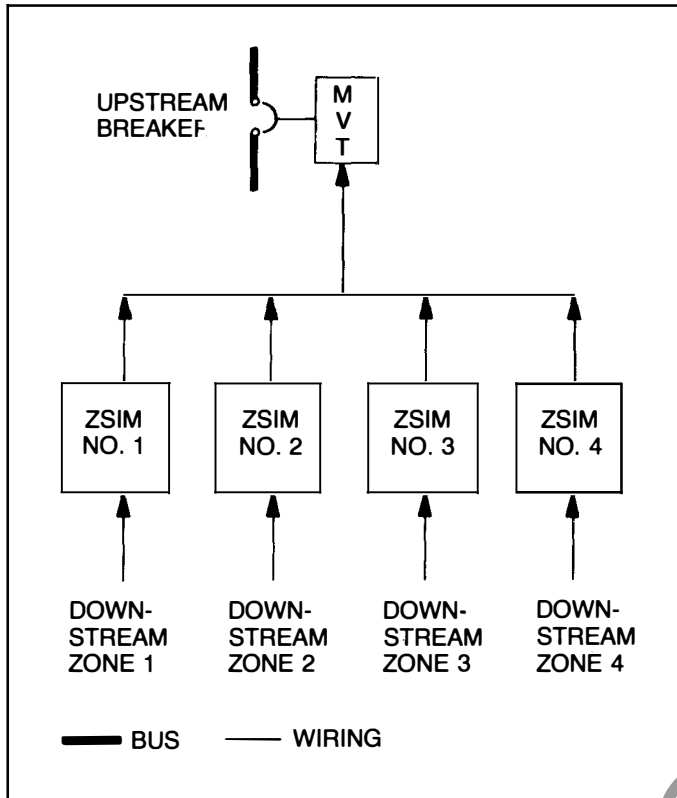

Figure 5. Interlocking one "upstream" breaker from several separate zones
1. The upstream connections of several zone selective interlock modules (up to four) may be connected in parallel provided they are terminated in the zone selective "INPUT" of only one breaker. See Figure 5.